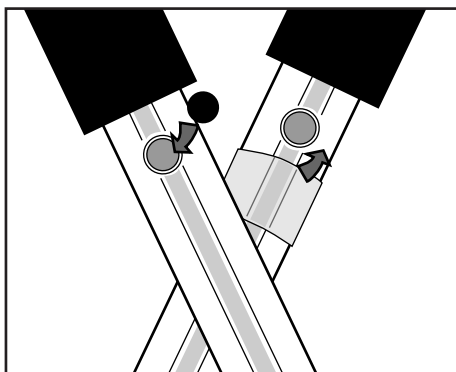

Figure 13
2. If using a refillable electrode, close the refilling hole by returning its rubber sleeve or stopper plug over the opening in the side of the electrode. See Figure 13.